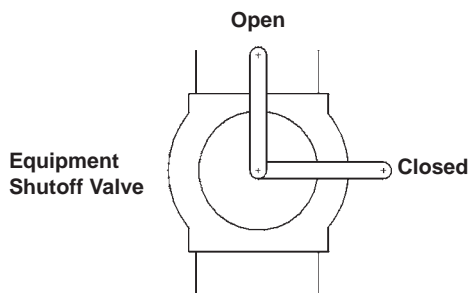

Figure 13
1. Close equipment shutoff valve (see figure 13).
3. Open equipment shutoff valve (see figure 13).